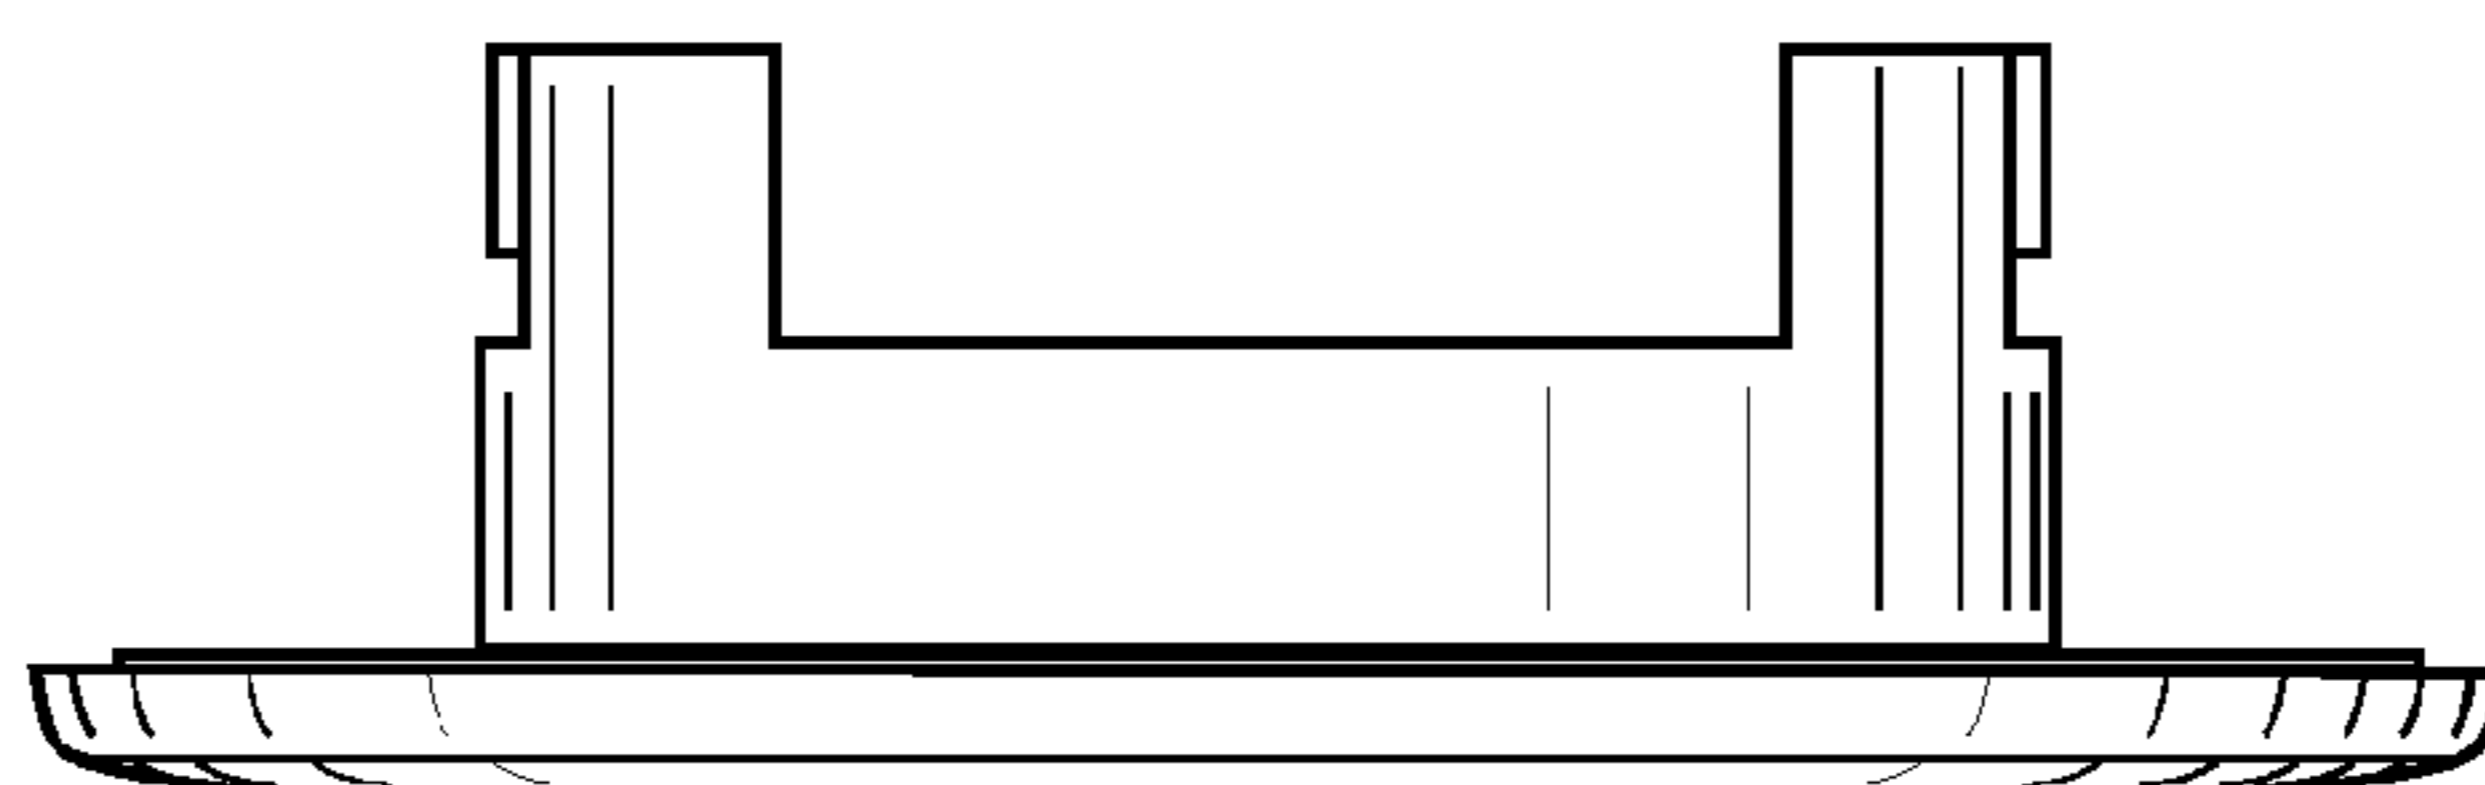

FIG. 15
- FIG. 15 is an isometric view, from the bottom and one side, of the trim.